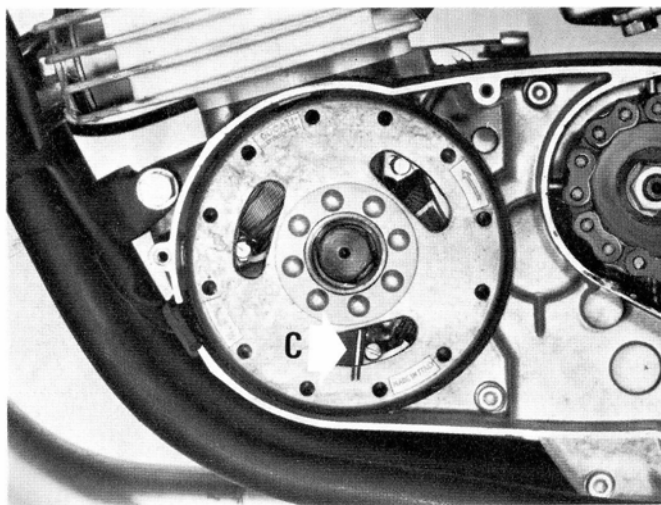

Fig. 58
**Electrical timing** (fig. 58): connect a stroboscopic lamp (with capacity coupling) to the ignition; the connection is directly realized on spark plug, or on the H. T. cable etc. ac-
— The engine results correctly timed when with the stroboscopic lamp the spark arcs in the instant when the (white) mark on pick up « P » matches with the two marks on the rotor close to a slot pointed out with an arrow on fig. 58.